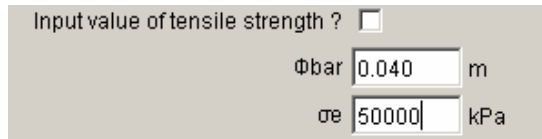

Figure 42: reinforcements dialogue box: tab 1 (nails)
- or must be calculated based on the steel bar diameter (Φ_{bar} in m) and on the yield stress (σ_e , pressure unit) (Figure 42). This second choice is the default choice.